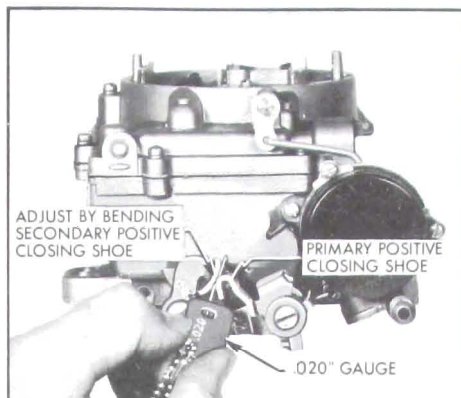

Figure 3-80—Closing Shoe Adjustment this clearance using pliers. See Figure 3-79.
6. Adjust Closing Shoe. Hold choke open and rotate primary throttle lever through full range. Check clearance between positive closing shoes on primary and secondary throttle levers at closest position using $.020$ " gauge. Bend secondary closing shoe as required to obtain this clearance using pliers. See Figure 3-80.